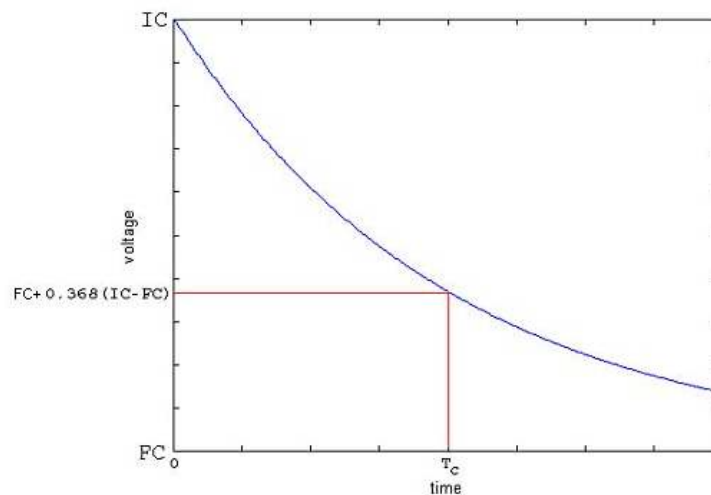

Figure 4. Oscilloscope display of exponential decay waveform
- b. Adjust the scope's horizontal and vertical position knobs and the trigger slope and level so that the waveform is completely visible (zoom in), but fills the scope face. Line up the **start** of the exponential waveform with the vertical grid line on the left edge of the scope face. Set the horizontal scale (time base) so the trace looks something like Figure 4. It is not necessary that you be able to see 5 time constants; but it is good practice to expand the display so that at least 50% of the scope face is used for measurements (as shown in Figure 4).
- c. Method 1 of MEASURING the time constant This method uses no calculations and uses the definition of the time constant to measure it. The time constant is defined as the time it takes the voltage to decay by a factor of $(1/e)$ of the voltage difference $(IC-FC)$, or rise by a factor of $(1-1/e)$ of the voltage difference $(IC-FC)$. The decay case is depicted in figure 4 above.
- d. Method 2 of MEASURING the time constant T_C — curve fitting: **Use Benchlink Scope as described in Appendix 1.** This display will be analyzed as part of your lab write up. Because you will use this display to determine T_C it is very important that you adjust the voltage sensitivity to get a display similar to that shown in Figure 4. You can use the oscilloscope's vertical positioning adjustment to accurately place the waveform's start at the left top of the screen.
- a. Determine (IC - FC) from your first printout. This value of (IC - FC) should be the peak-to-peak voltage of the source and should be near 8 V. Locate the voltage $0.368 \times (8 \text{ V}) = 2.94 \text{ V}$ from FC on your printout. This should typically be about one third of the way up from the bottom of the oscilloscope display (as shown in Figure 4). This voltage level is significant because one time constant has elapsed when the exponential has decayed to 36.8% of the difference between the initial voltage and the final voltage. Determine this time T_C from your plot.